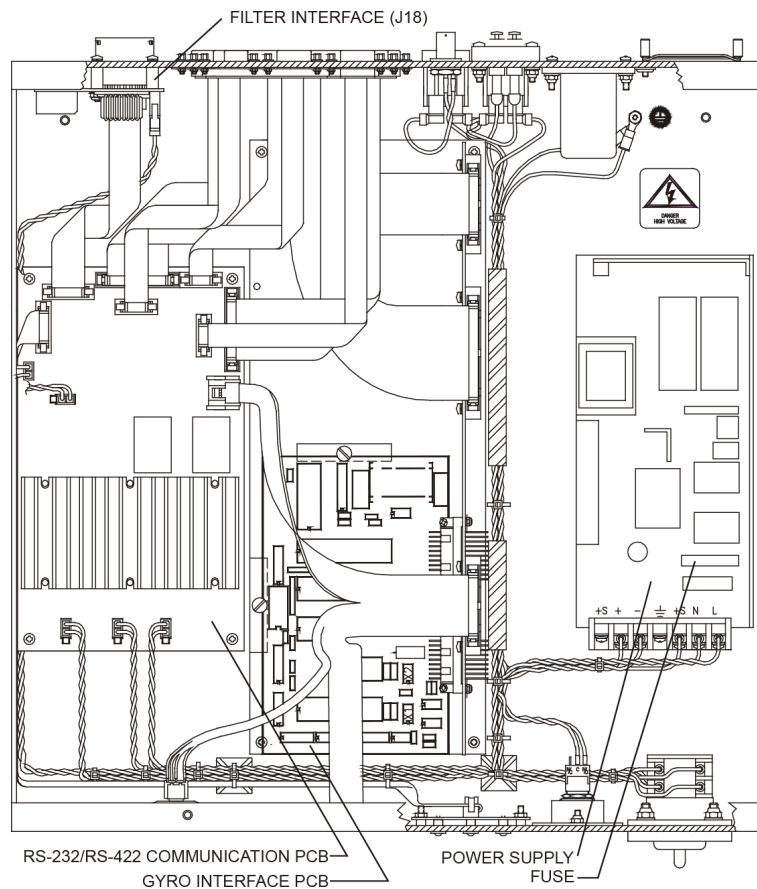

Figure 7. Deck Box (Top View)
3. Locate the Filter Interface board (see Figure 7). Locate connector J18 and disconnect the twisted black and white cable plugged into this connector. The power from the deck box to the ADCP has now been disabled. Only the batteries are powering the ADCP.